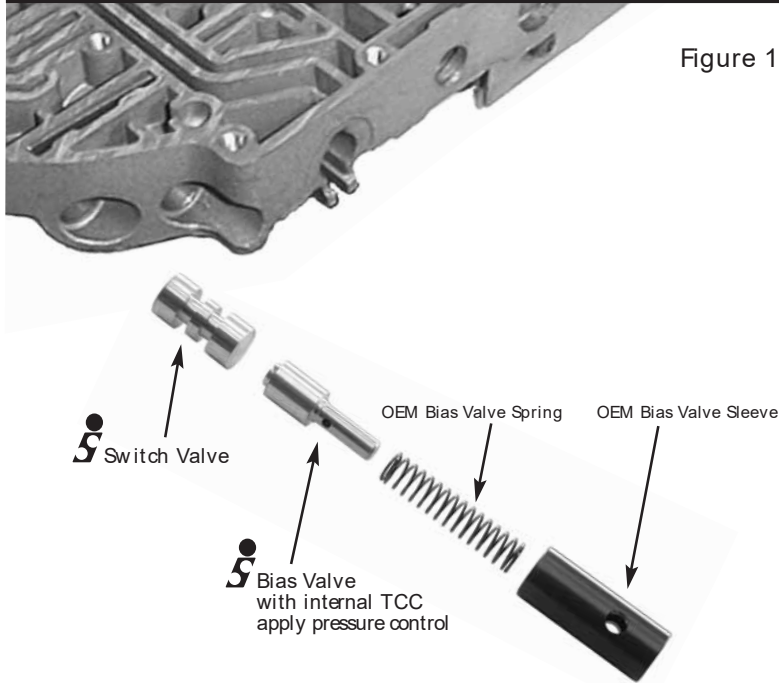

Figure 1
2. Install the Sonnax switch valve and bias valve, reusing the OEM bias valve spring, sleeve and retainer (see Figure 1). Install the rounded spool inboard toward the inner dip and the flat spool facing outboard toward the bias valve. See illustration below.